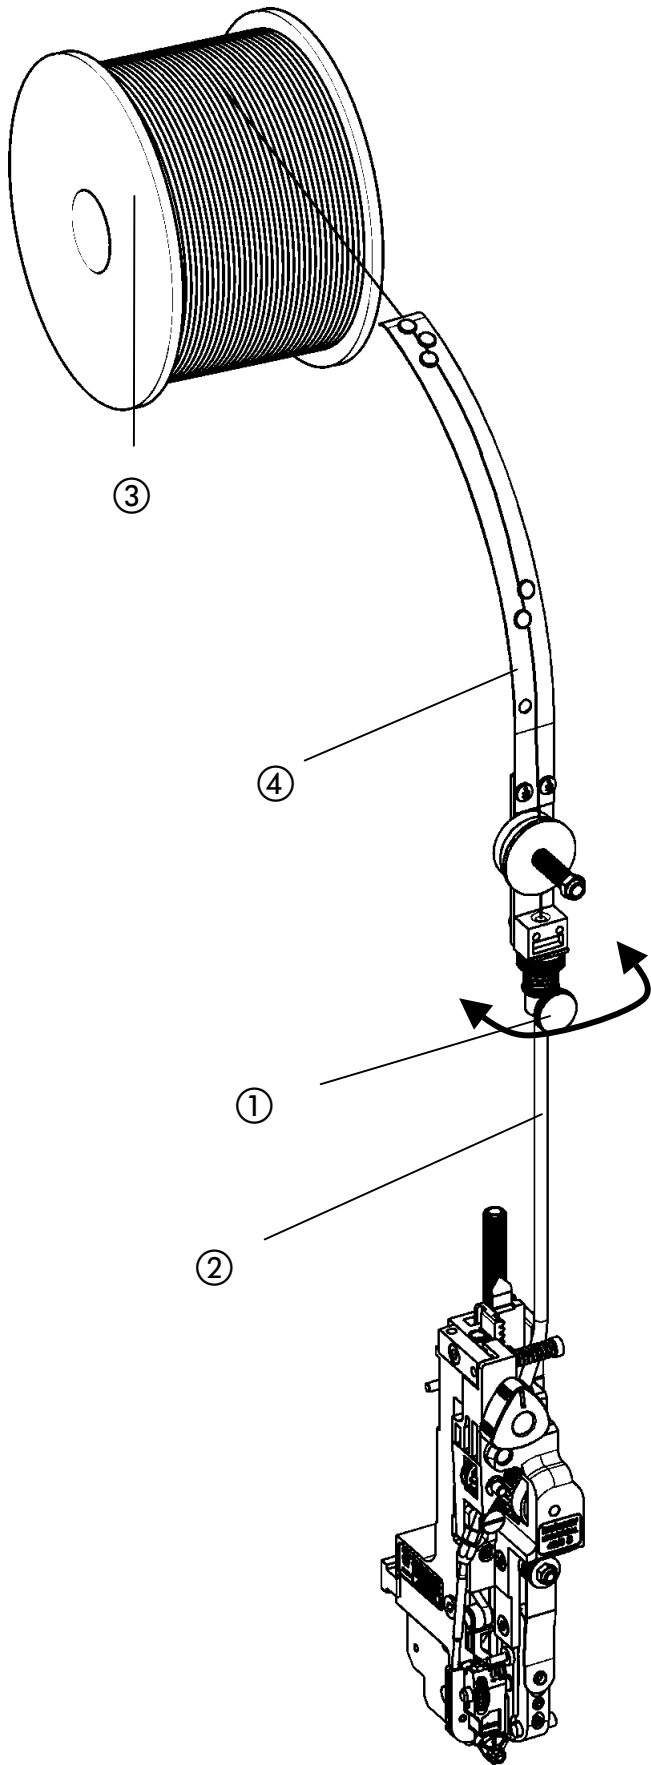

Fig. 6
- Fig. 6 -
- Loosen the knurled screw ① and place the wire guide ④ on the wire guide tube ②.
- Align wire guide ④ to wire roller ③ , in order to ensure perfect wire guidance.
- Tighten knurled screw ① in order to fix the wire guide ④.